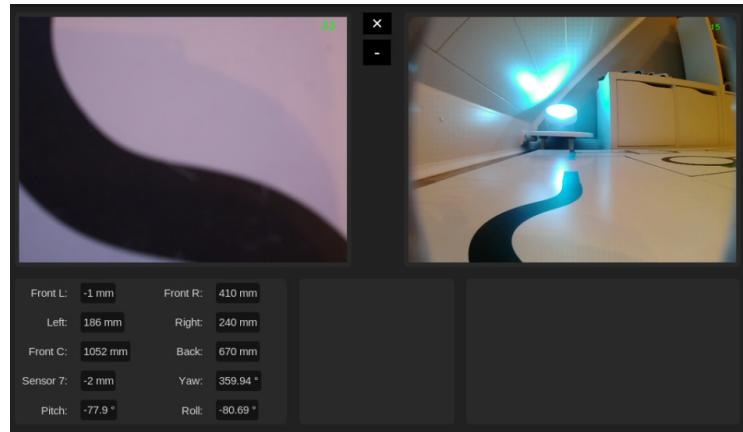

Figure 37: GUI with added sensor data and second camera stream
I will now try to get the robot to follow the line more correctly and much faster than before, starting with fixing the weird camera zoom seen in Fig. 37 and finally integrating the GUI into our existing code.
- Tried to get a more zoomed out image from the Raspberry Pi Camera Module V3 (see Fig. 37), including using the lores stream or adjusting the zoom with